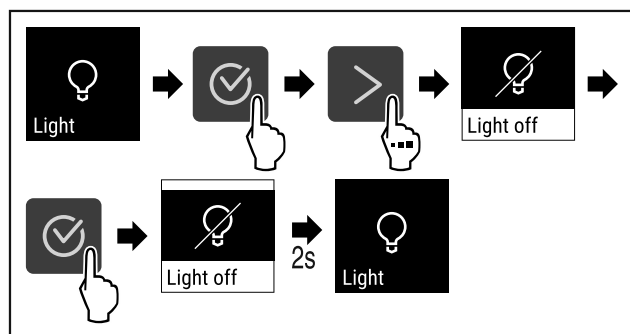

Fig. 68
- ▶ Complete steps (see Fig. 68) .